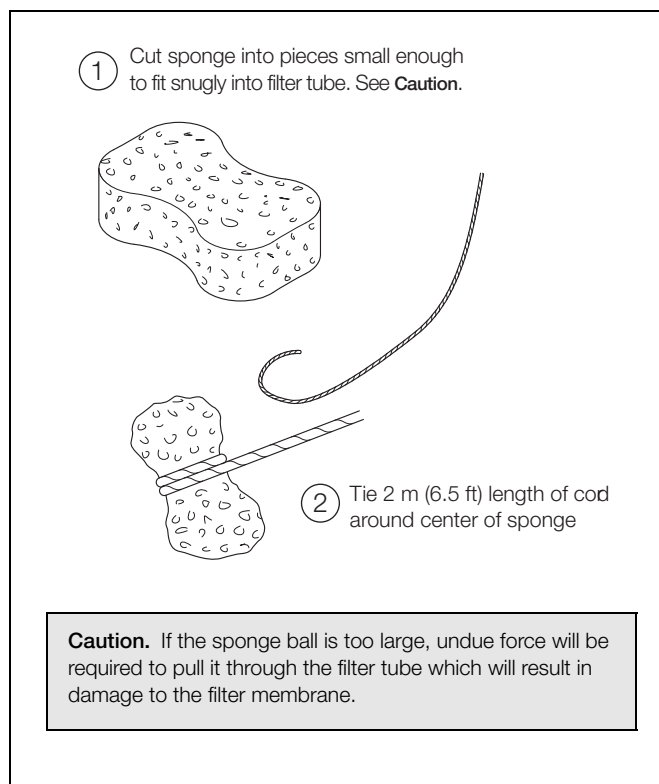

Fig. 4.1 Preparing pull-through sponge ball
A pull-through sponge ball is required. This is easily fabricated from a suitably sized piece of sponge and length of cord – see Fig. 4.1.
2. Thread the cord of a pull-through sponge ball (see Fig. 4.1) through the filter tube and pull the sponge through the entire length of the tube to remove any material on the surface on the filter membrane. Clean the sponge and repeat the process until the sponge appears clean.
- Thread the cord of a pull-through sponge (see Fig. 4.1) through the filter tube and pull the sponge through the entire length of the tube to remove any material on the surface on the filter membrane loosened by the cleaning solution. Clean the sponge and repeat the process until the sponge appears clean.